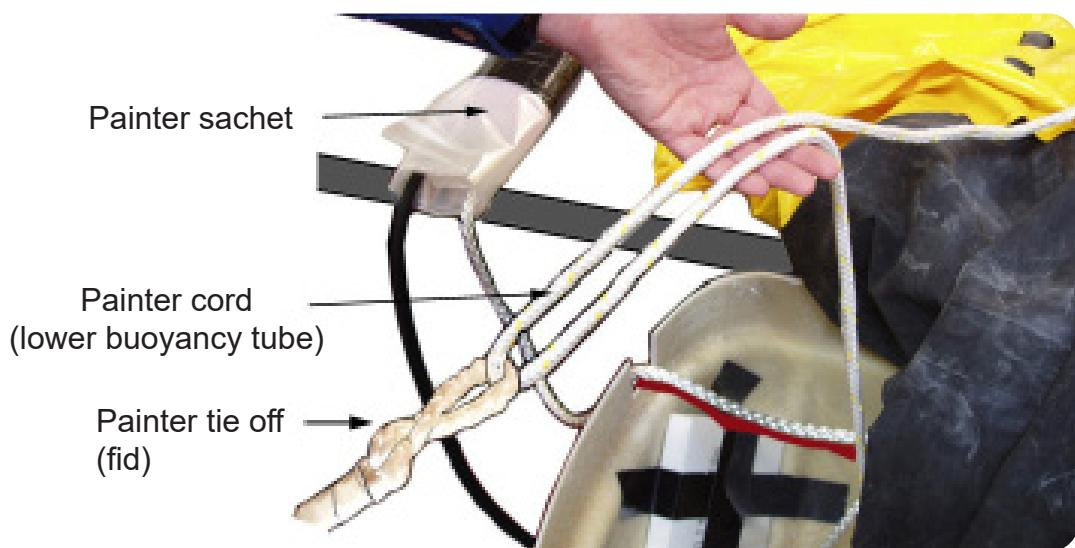
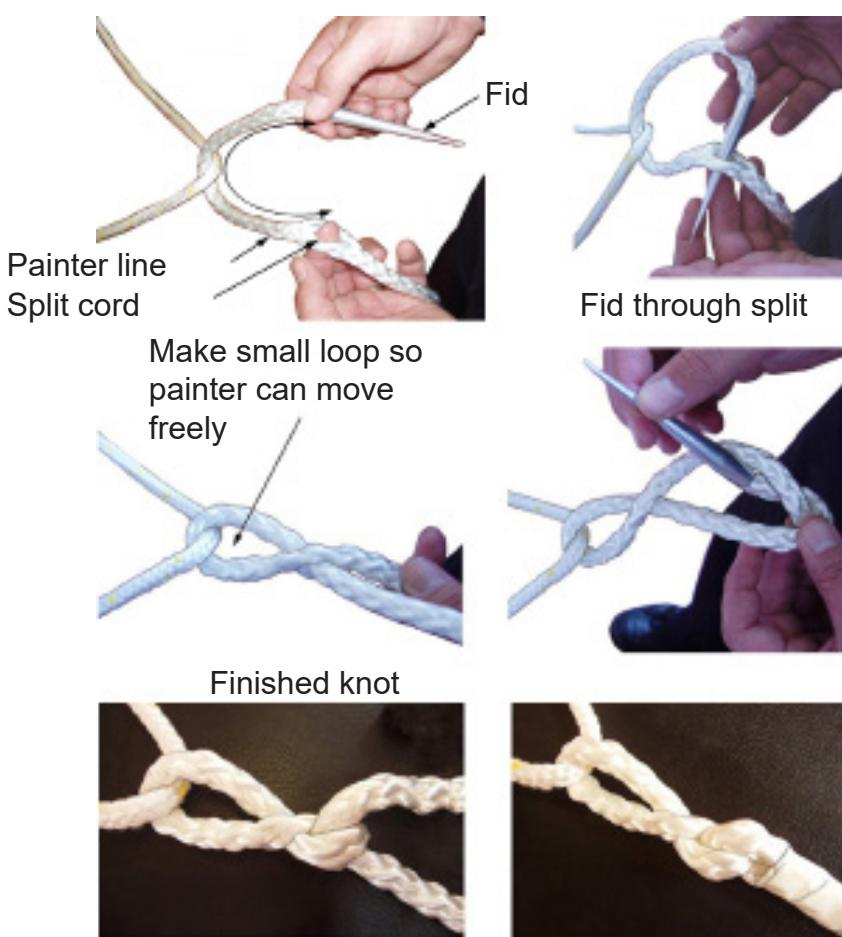

FIGURE 829A
FIGURE 829B
- 5.32 Locate the painter attachment cord on the lower buoyancy tube. Attach the liferaft end of the painter to the painter cord. Refer to FIGURE 829A. Use a splice tool and half knot, then tape the flying end. Refer to FIGURE 829B.